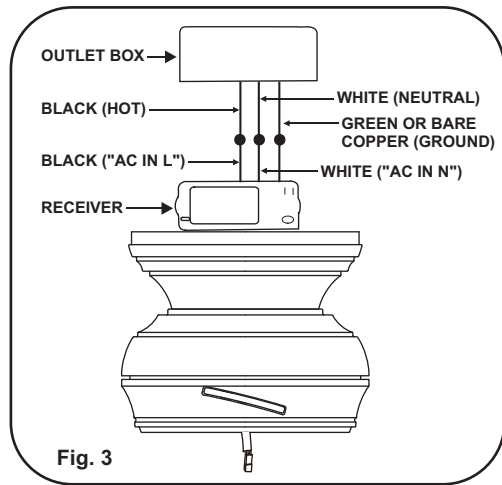

Fig. 3
Step 1. Connect the fan supply (black) wire to the black household supply wire as shown in Figure 3 & 4.